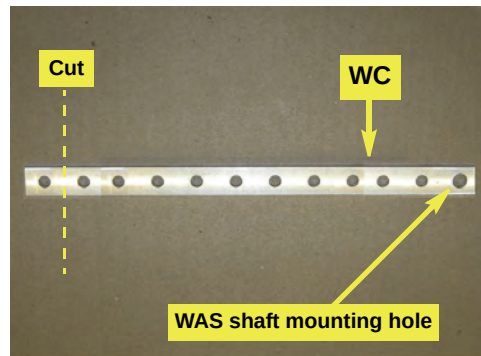

Figure 1b: WAS arm preparation
- Cut one hole off WAS arm **WC** at the opposite end from the WAS shaft mounting hole (Figure 1b).
- c. Using self-drilling screws **EN**, fasten bracket **EL** to the cab floor (Figure 1b). Use a small level (not shown) to check the level of the bracket. Adjust accordingly.
- d. With the ECU **EJ** against the inside face of its bracket **EL** (power/communications indicators at the bottom), use the shorter screws **EO** through the rearmost holes in bracket **EL** (the ECU connectors end - Figure 1b inset) to loosely attach **EJ**.
- Using the longer screws **EP** through the narrow side of controller bracket **EM** (wider side forward) and the forward holes in bracket **EL**, secure **EJ** and **EM** to **EL** (Figure 1b). Tighten **EP** and **EO**.
Figure 1b with inset: ECU and steering controller bracket installed